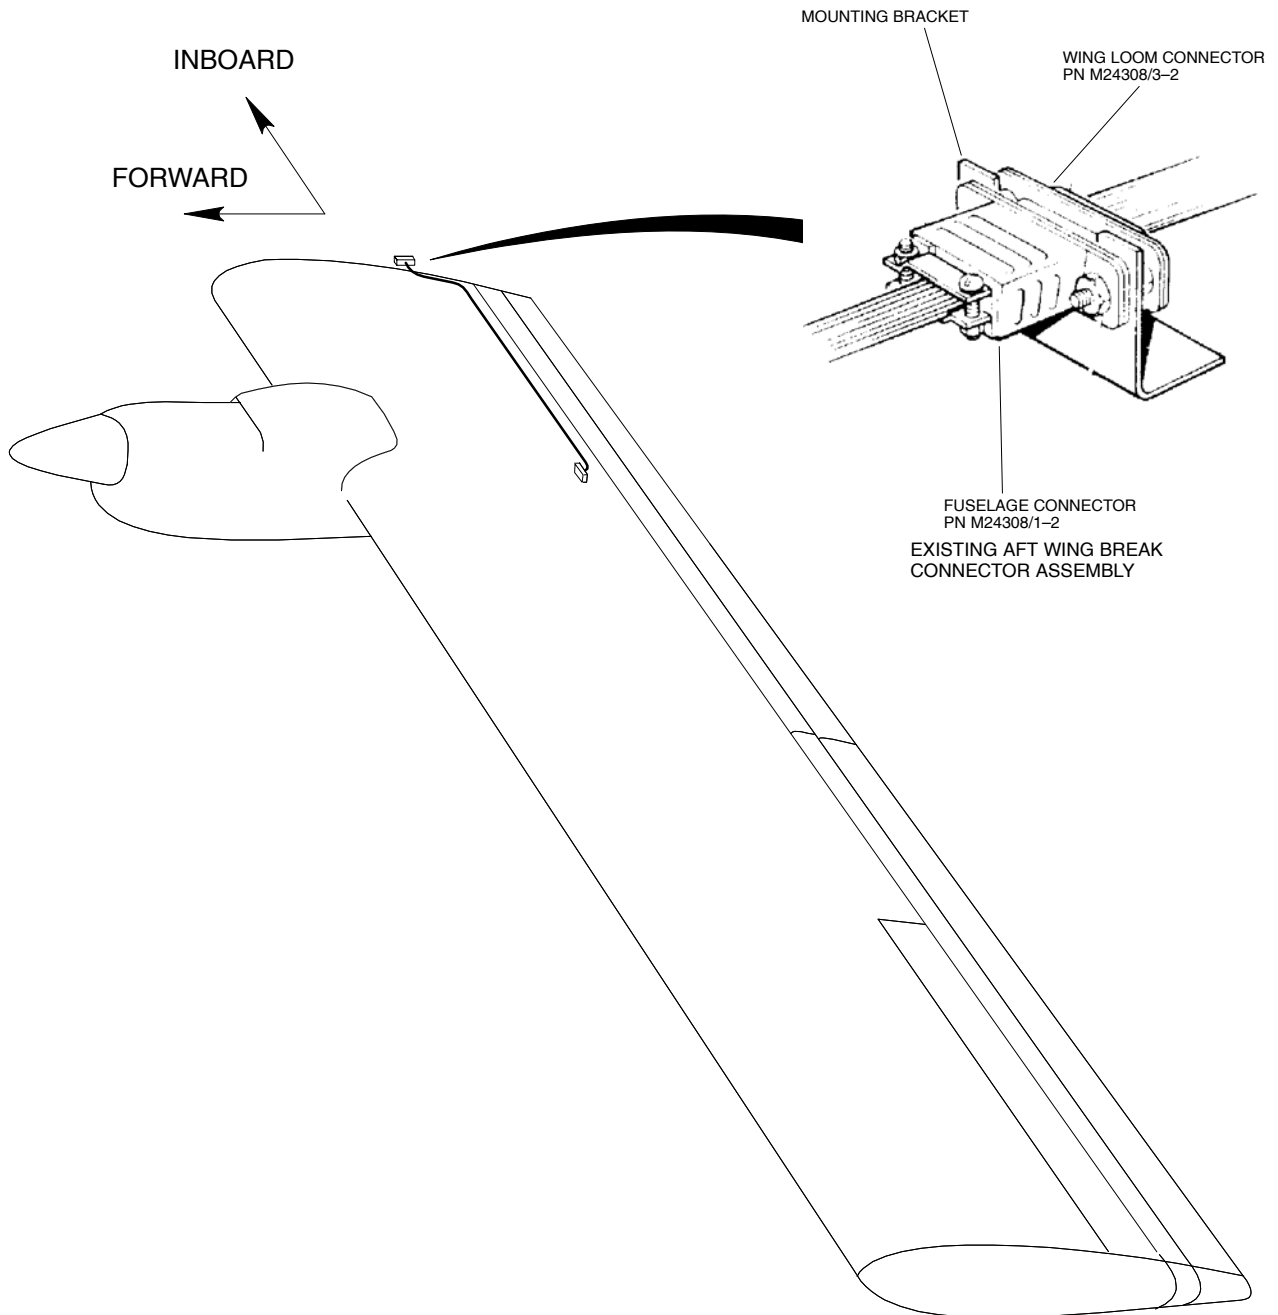

Figure 1 Aft Wing Break Connector – Inspection
- (1) Set the battery switch to OFF and disconnect the aircraft battery.
- (2) Gain access to the aft wing break connector at the LH wing by removing necessary access panels. (Ref MM Chap 25–20–00).
- (3) Disconnect the aft wing break connector (Ref Fig 1) and remove the fuselage connector from the mounting bracket.
- (4) Remove the strain relief back shells from each connector to enable inspection of both sides of the contact inserts.
- (5) If the connectors are contaminated, thoroughly clean both sides of the connector using a suitable cleaning solvent.
- (6) Inspect the connectors for arcing damage, deposits between contacts and looseness of contacts. If the connectors are found to be unserviceable, omit the following steps (7), (8), (9) and (10) and proceed to Part B.
- (7) Reassemble the strain relief to each connector half and install the fuselage connector onto bracket. Reconnect the connector halves.